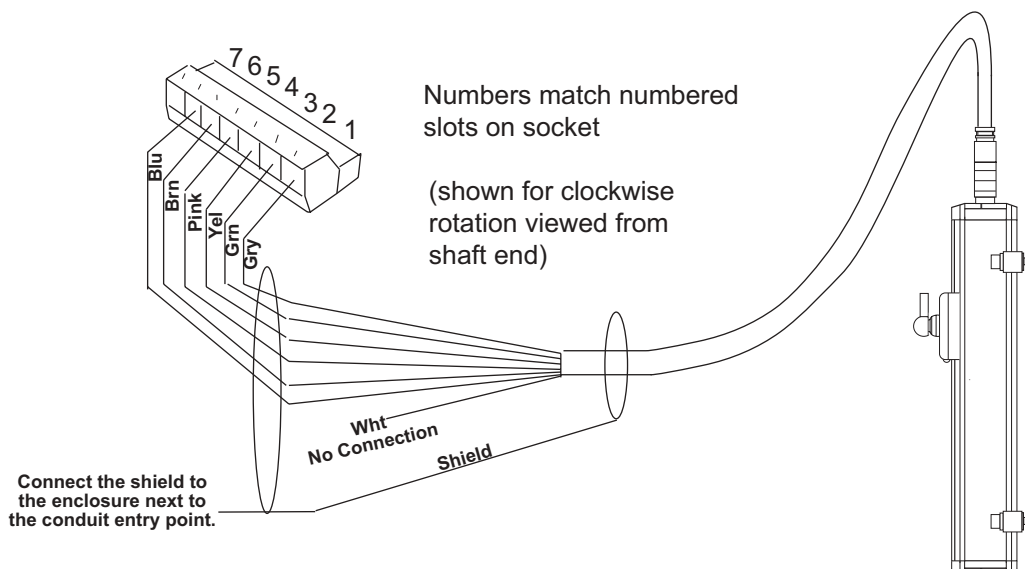
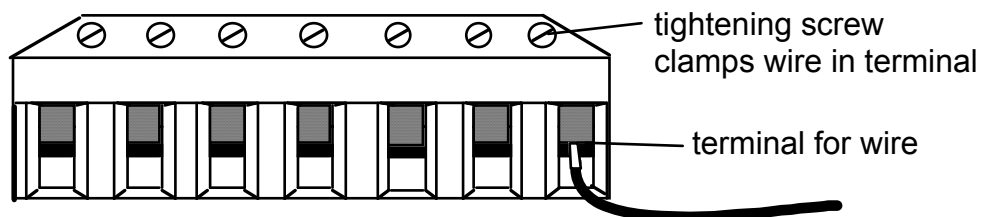

Figure 2-7. Pin out wiring for transducer cable (see Table 2-2 below)
Figure 2-8. Attaching wires to connector
5. Attach the wires to this connector as shown in Fig. 2-7, Pg. 26. To connect a wire, find the correct terminal and loosen the screw over it by turning it counterclockwise (see Fig. 2-8, Pg. 43). Strip the correct wire for this terminal 1/4" (6.4 mm) from end. Insert bare wire into the terminal 90% of the way. Tighten the screw. The metal tooth inside the terminal will clamp down on the bare wire for a tight connection. Make sure the metal tooth is clamped down on the bare part of the wire, not on the insulation.
To wire the DSI 2, connect the cable to TB501 (Fig. 2-5) for 8 inputs on the DiPro Sensor Interface 2 (DSI 2). If SmartPAC Hydraulic is configured for 16 sensor inputs, (need two DSI 2's), connect cable to TB551 1-8 sensors & TB552 9-16 sensors (Fig. 2-7). A wiring diagram for both 8 & 16 sensors can be found at the back of this manual Fig's 2 & 3.